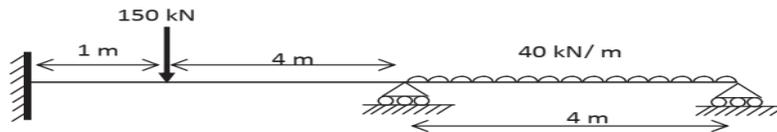

Fig.4
10. Analyse the beam shown in Fig.4, using Stiffness method and draw S.F.D and B.M.D. Assume EI is constant.